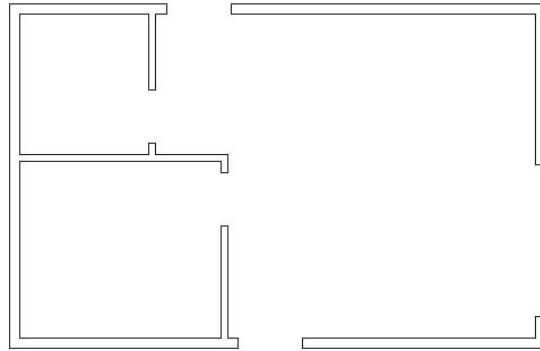

FIGURE A.1: Cabin07b with all layers turned off except Walls
1. Open Cabin07b. When the floor plan displays, make the Walls layer current and turn off all other layers. Your drawing will look like Figure A.1. Try to start thinking of it in three dimensions. The entire drawing is on a flat plane parallel to the monitor screen. When you add elements in the third dimension, they will project straight out of the screen toward you if they have a positive dimension, and straight through the screen if they have a negative dimension. The line of direction is perpendicular to the plane of the screen and is called the Z axis. You are familiar with the X and Y axes, which run left and right and up and down, respectively. Think of the Z axis for a moment as running in and out of the screen.